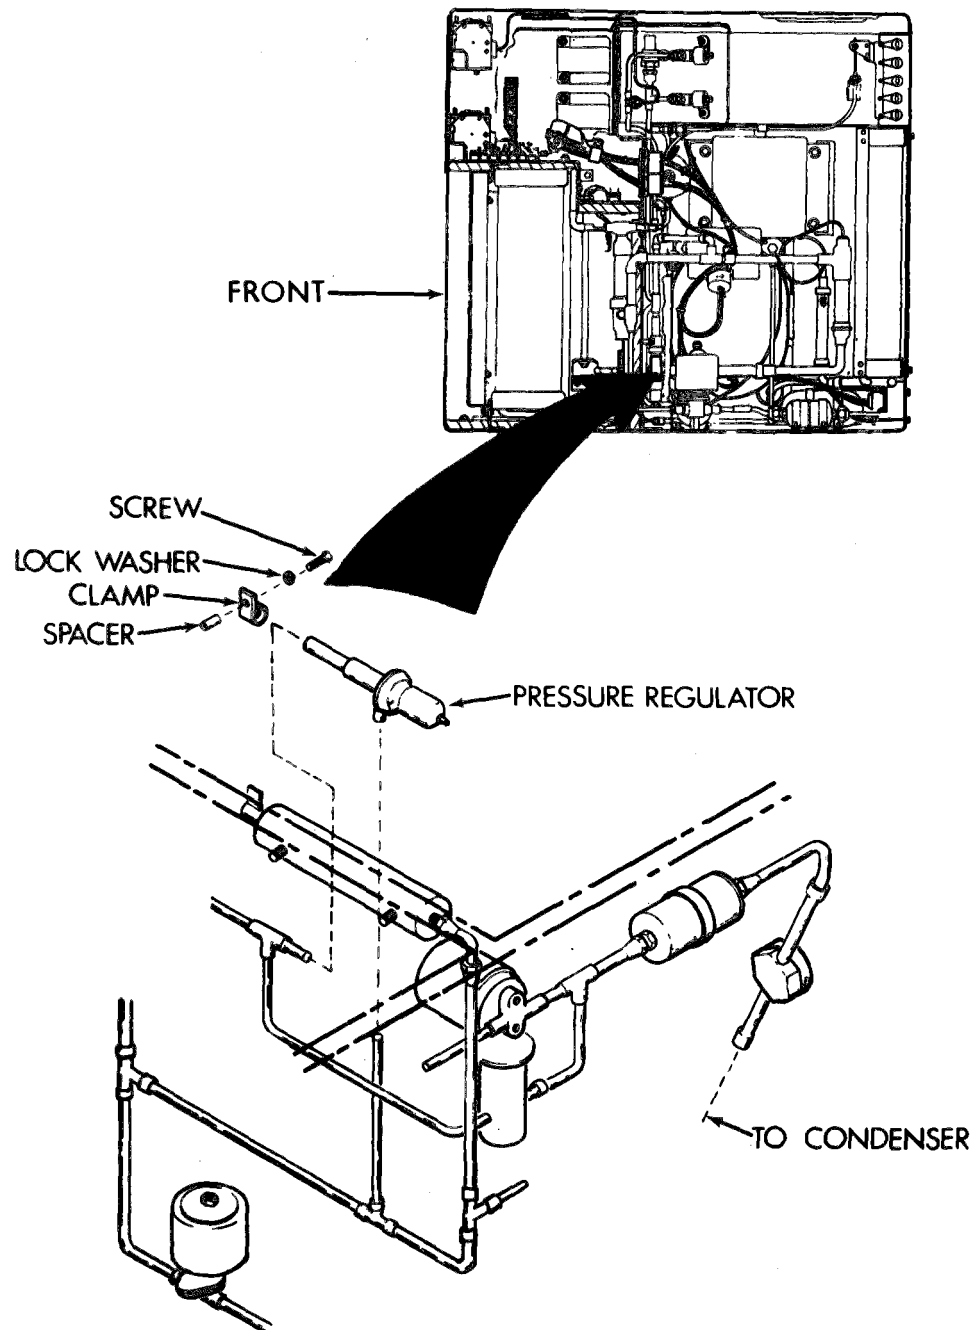

Figure 5-13. Pressure Regulator
a. Removal. (See fig. 5-13.)
- (1) Disconnect power at power source.
- (2) Remove top front and rear covers (para 4-11).
- (3) Discharge and purge refrigeration system per paragraphs 5-11 and 5-12.
- (4) Remove screw, lock washer, clamp, and post spacer.
- (5) Debraze two tube connections and remove pressure regulator.